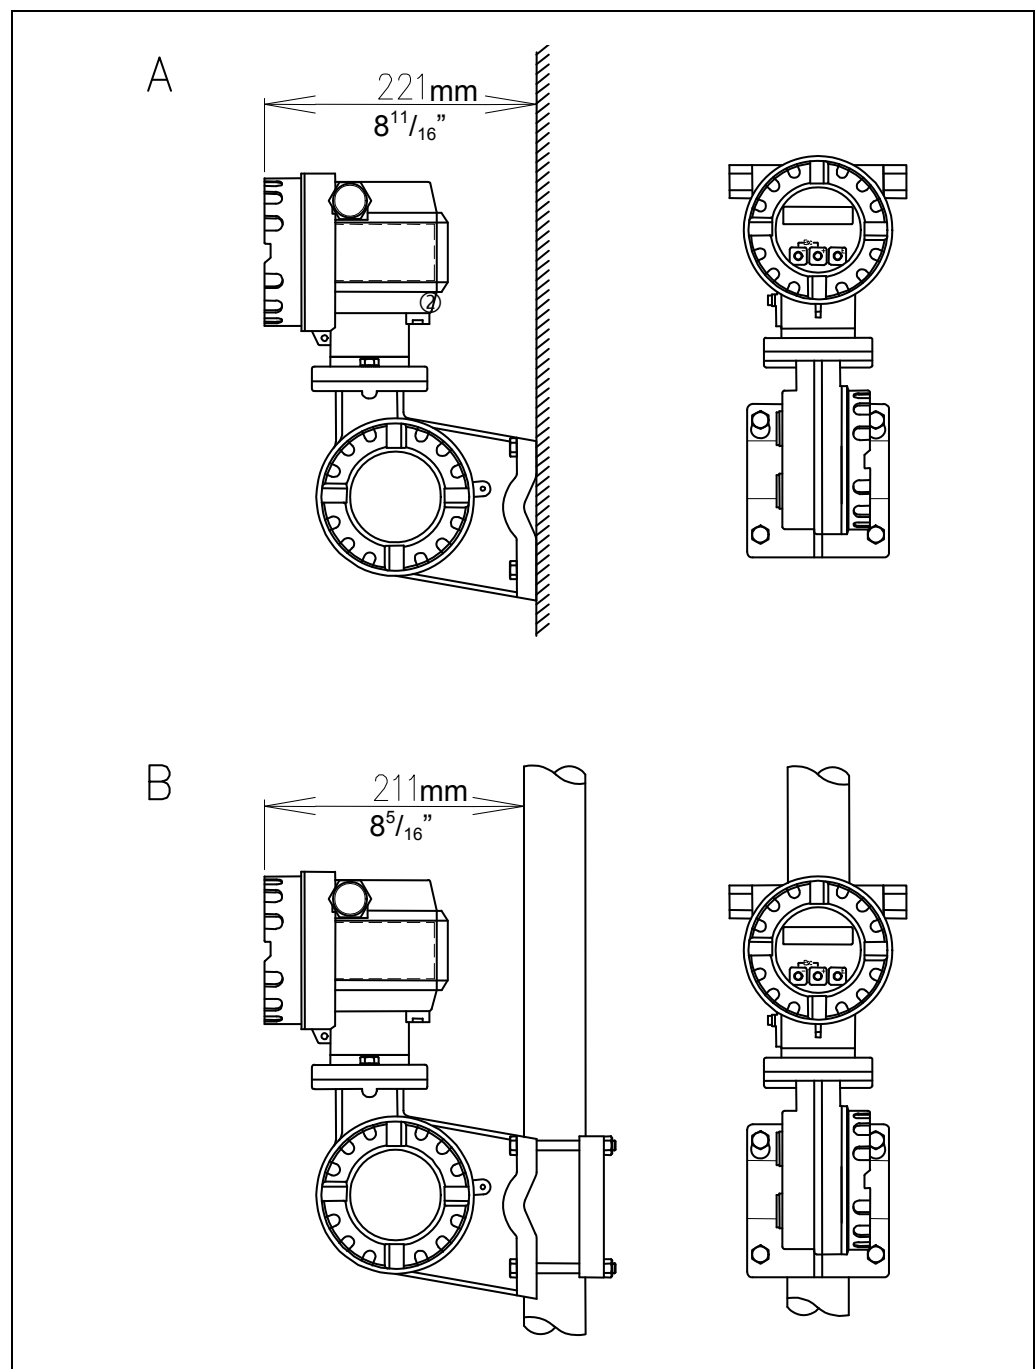

Figure 11
- Wall mounting (Fig. 11.A)
- Pipe mounting (with optional pipe mounting kit) (Fig. 11.B)